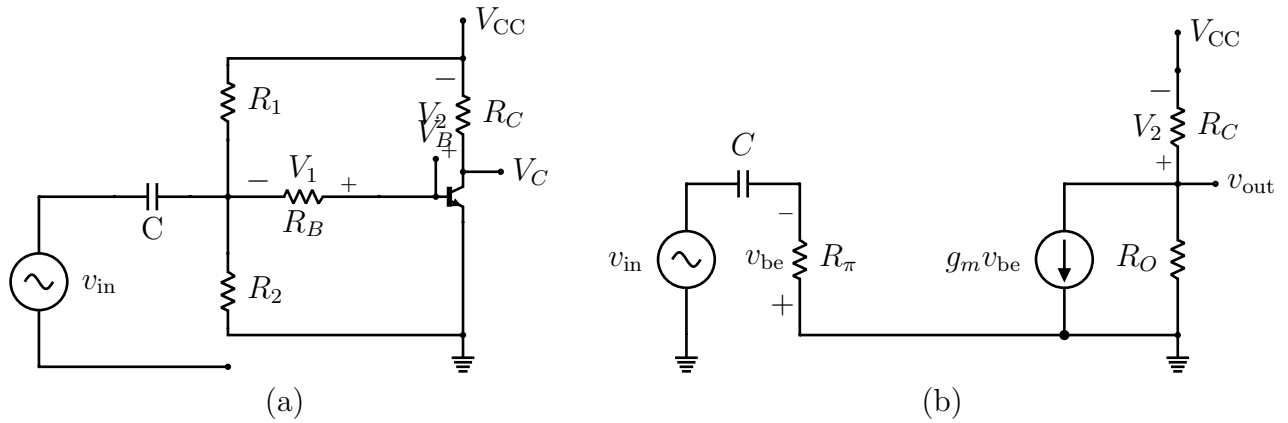

Figure 2: A transistor characterization circuit (a) as built, and (b) in the hybrid-pi small signal approximation.
1) For the circuit in Fig. 2, show that:
2) Using the hybrid-pi small signal model for the circuit in Fig. 2 show that the small signal gain in the limit that  $C \rightarrow \infty$  and  $R_0 \rightarrow \infty$  is given by: